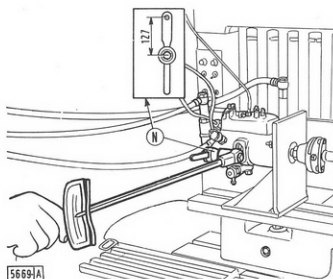

Fig. 78 - Tightening the Maximum Fuel Adjusting Plate Retaining Screws
- Retighten screws (64) gradually and alternately until the prescribed torque is obtained. To do this use tool No. **290754** (N, Fig. 78) adjusted so that the hexagonal socket for the torque spanner is 127 mm. (5 in.) away from the screw hole centreline.